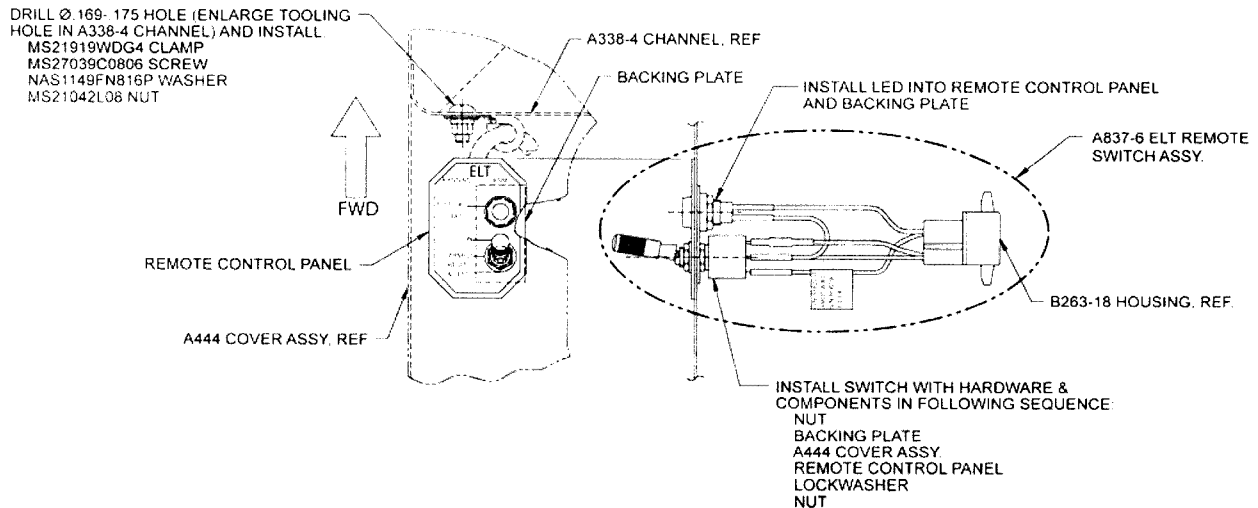

FIGURE 2 ELT REMOTE SWITCH INSTALLATION
6. Install A837-9 remote switch assembly into A444 cover with "RESET & TEST" position of switch AFT and secure with supplied hardware per Figure 2. Verify that momentary position of switch coincides with "RESET & TEST" position. Reinstall post light. Unmask cyclic box area.
12. Connect shielded wire forward connector to A837-9 remote switch. Secure shielded wire to A338-4 channel on cyclic box with MS21919WDG4 clamp per Figure 2. Route and secure -692 wire forward along main wire harness and connect it to ground stud at center of lateral bulkhead under floor.